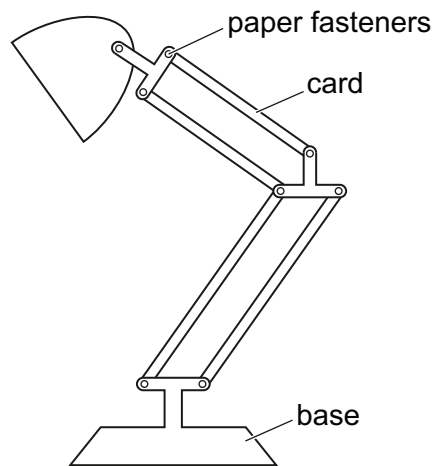

Fig. 3.1
- 3 Fig. 3.1 shows a card model of an adjustable lamp mechanism.